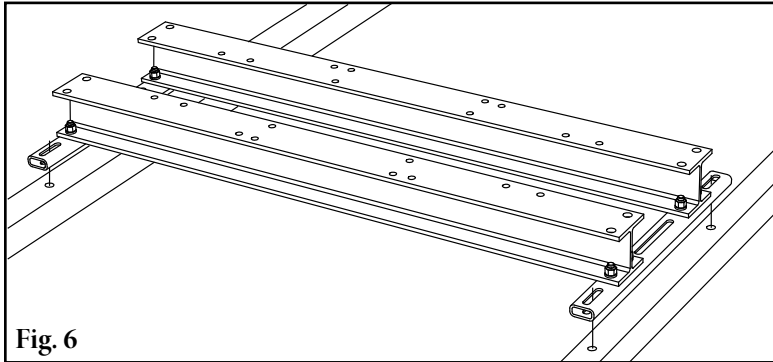

Fig. 6
6. **Install modular bed main frame.** Position the main frame to align with the mounting holes from Step 3. Insert the mounting bolts and leave finger-tight (Fig. 6). Use shim under mounting feet if needed (Table 1). Verify the height of the center roller on leading and trailing idlers (Table 2).